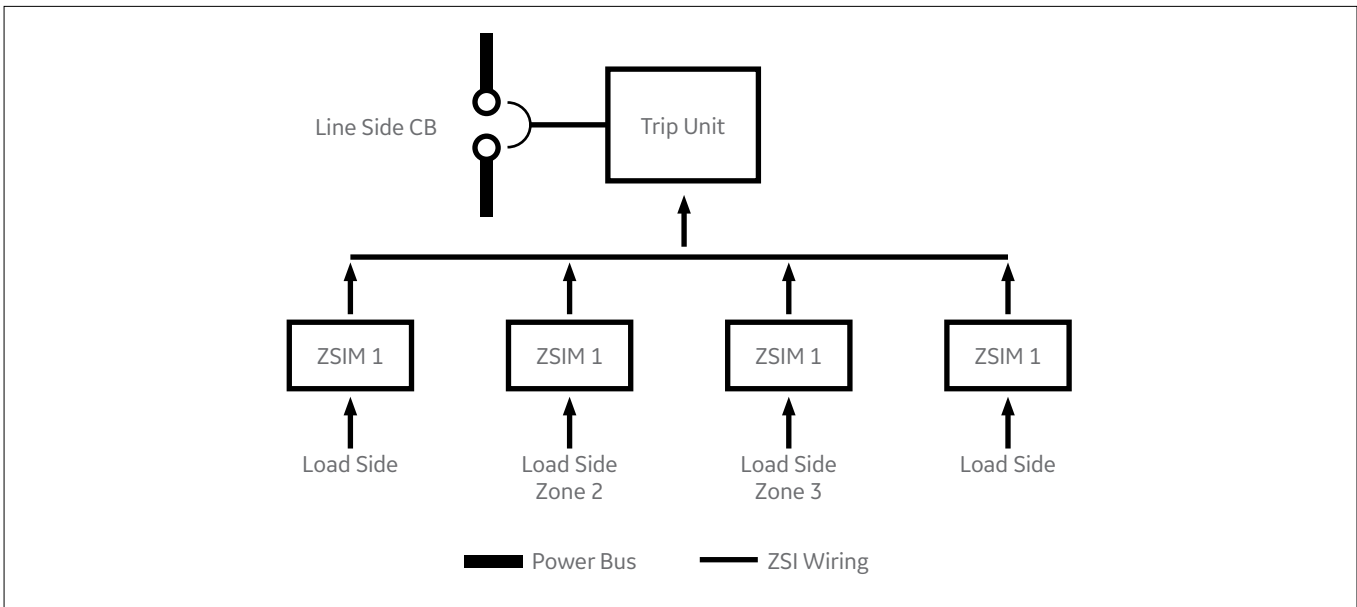

Figure 4: Interlocking One "Upstream" Circuit Breaker from Several Separate Zones
1. The upstream connections for several ZSI modules (up to four) may be connected in parallel provided they are terminated in the zone selective “INPUT” of only one circuit breaker, means this is valid if and only if one upstream breaker is connected as shown in Figure 4.